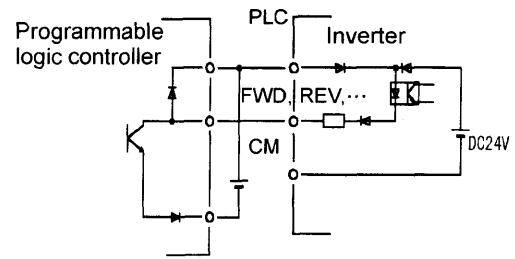

Figure 2-3-12
1) The digital input terminals such as FWD, REV, and X1-X9 are generally turned on/off between the CM terminal. If turned on/off using an external power source and open collector outputs from the programmable logic controller, the terminals may malfunction due to current leak from the external power source. In this case, connect the external power source using the PLC terminal as shown in Figure 2-3-12.